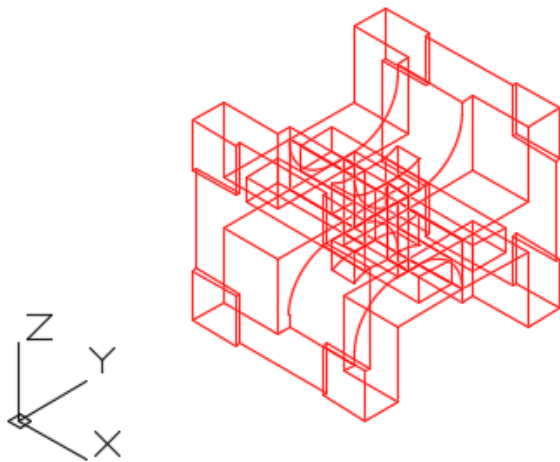

Figure Step 3
Step 3 Rotate the model 90 degrees as shown in the figure. Note the location of the WCS in relation to the model, after the rotation. (Figure Step 3)